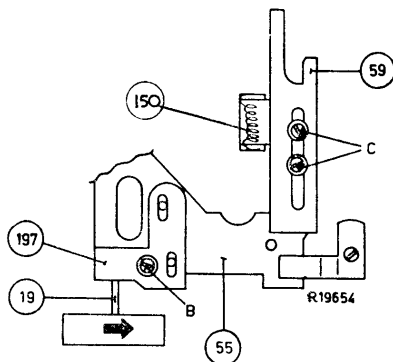
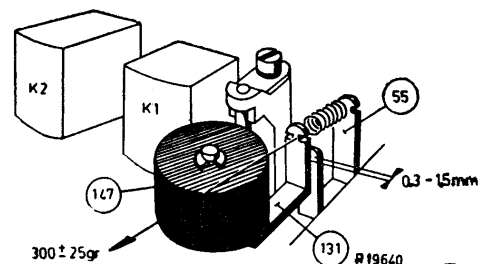

FIG. 16
FIG. 18
(a) The carriage bracket and pressure arm assemblies are adjusted as follows: With the "play" button depressed, remove spring 150 and slacken off screws "B" and "C" as indicated in Fig. 16. With a tape on the
- pressure roller must be held against the capstan whilst making this check. Slide the plate 197 back against the bracket 19 and tighten screw "B." Slide the locking bracket 59 forward into the slot in the record button, and tighten the two screws "C" (Fig. 16). Re-fit spring 150. There should be a space of between 0.3 mm. and 1.5 mm. between the lug on the carriage bracket 55 and the lug on the pressure arm 131 when the "play" button is depressed (see Fig. 18). Adjust if necessary by bending the lug on the carriage bracket 55. The force required to just overcome the pressure of the roller 147 from the capstan should be 275-325 grammes. Adjust if necessary by bending the spring mounting lug on carriage bracket 55 (see Fig. 18).